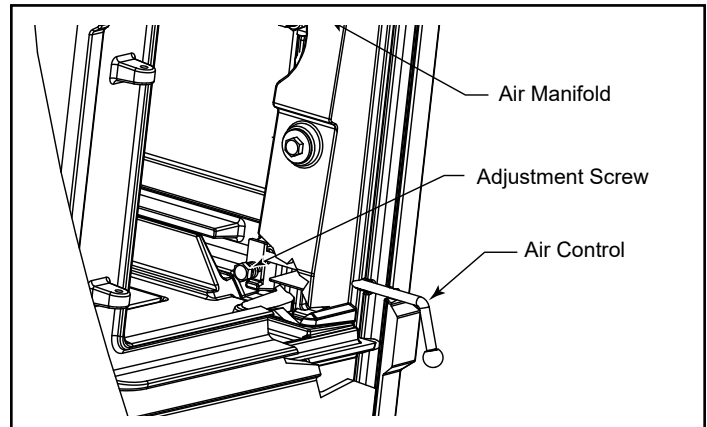

Figure 34 - Primary air control adjustment.
Over time, the air control may tighten or loosen. To adjust the tension on the control, let the stove cool to room temperature. Open the side-loading door and look in toward the inner side of the front panel of the stove. (Figure 34) Locate the lower hex head bolts (A) on the primary air manifold rods on either side of the door. Adjust with a 7/16” wrench.